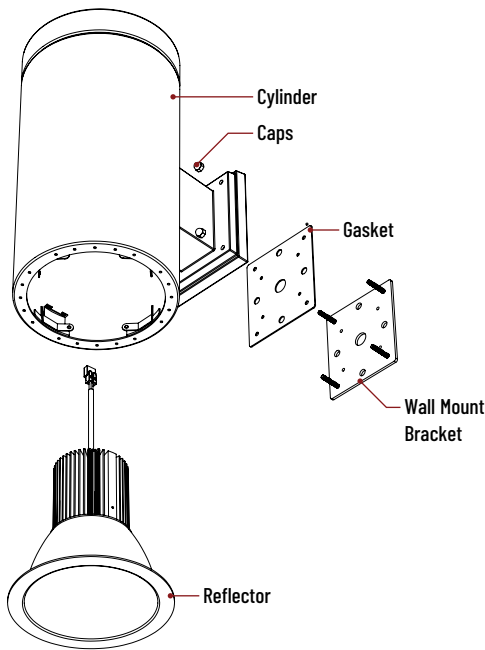

Figure 1
2. Make electrical connections inside junction box (not included). (Figure 1)